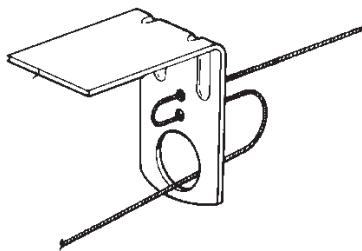
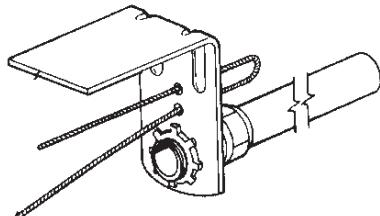
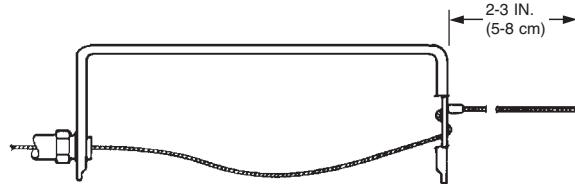

FIGURE 25
FIGURE 26
FIGURE 27
- 5. Feed the wire rope through the terminal detector bracket as shown in Figure 25 or as shown in Figure 26 if the terminal detector is mounted within a duct or header opening, and install the stop sleeve approximately 2 to 3 in. (5 to 8 cm) from the end of the wire rope. See Figure 27. Use the National Telephone Supply Company Nicopress Sleeve Tool (Stock No. 51-C-887) or equal to properly crimp the stop sleeve.